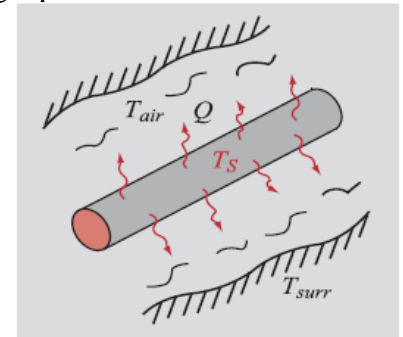

Figure 1.
3. A pipe of length $L = 25\text{m}$ and diameter $d = 0.1\text{m}$, carrying steam, loses heat to the ambient air and surrounding surfaces by convection and radiation as shown in Figure 1. The total heat loss Q emanating from the surface of the pipe is determined by the following equation: